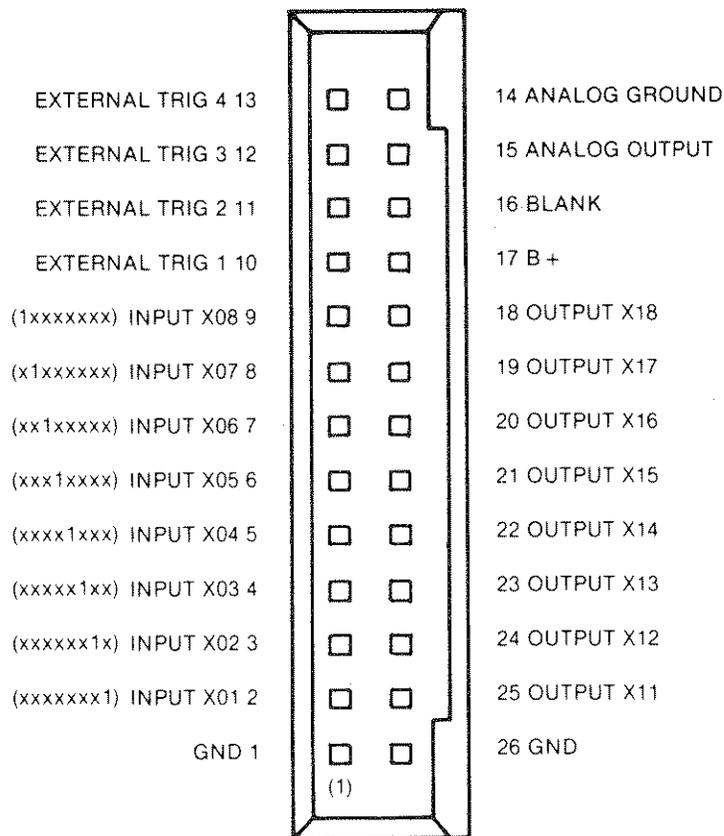

Figure 12-1. Digital I/O Connector.
7, and 8 which relates to rear panel option slots. See figure 2-3 item 1 shows the location of the digital I/O slots connectors. Figure 12-1 shows the digital I/O connector along with its pins and functions. Digital outputs can also be addressed using alarms; Section 8.